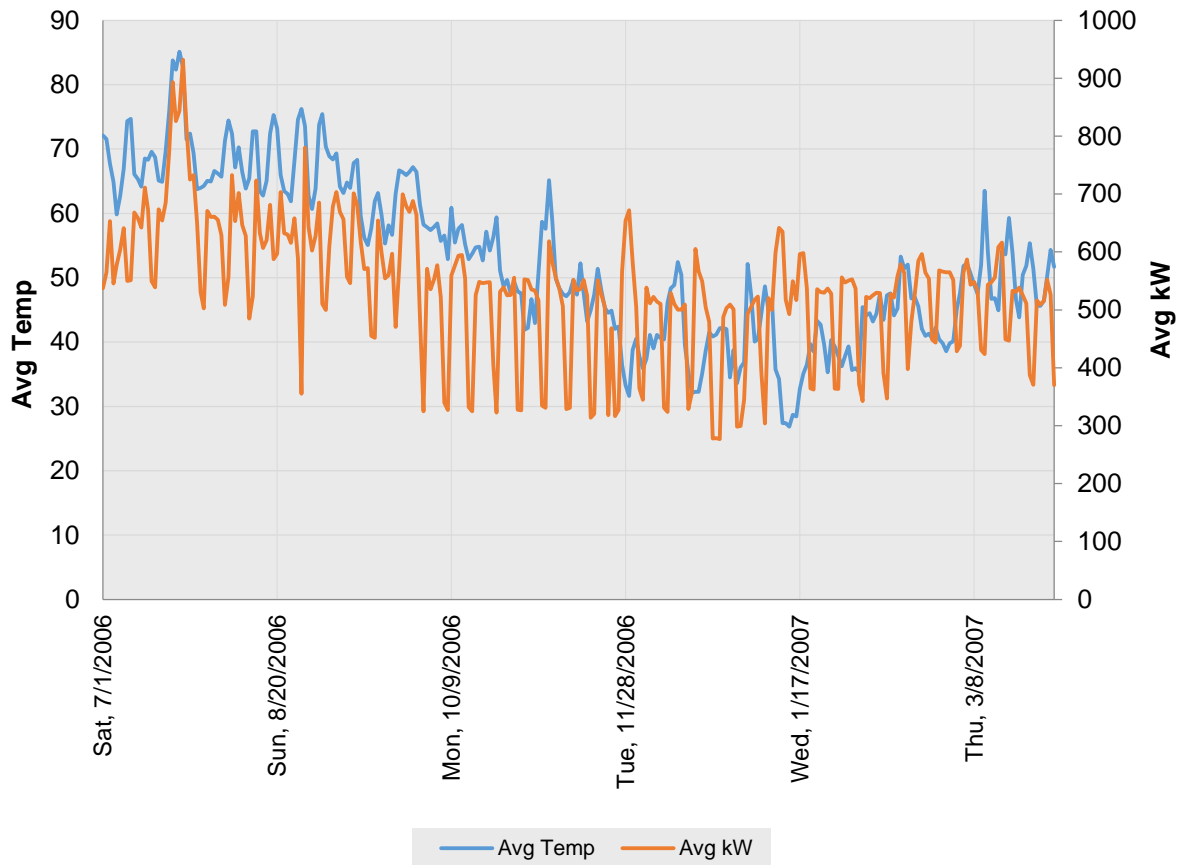

Figure 91: Points History Chart of Temperature and kW, aggregated to the Daily Level.
- Tip! You can convert the short-interval data to daily data by using the scatter chart (!) option described in Section 4.1.3 Toggle Scatter between all Timestamps and Aggregated Values. At first the chart may appear blank. You will need to change any one of the PivotFields briefly—change it then change it back—and then you will get a chart with the data aggregated to the daily level. See Figure 91.